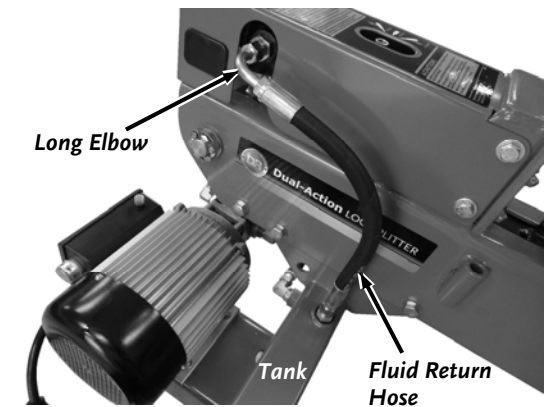

Figure 14
24. Install the Fluid Return Hose to the Control Valve (long elbow end) and top of the Tank using a 7/8" Wrench (**Figure 14**).